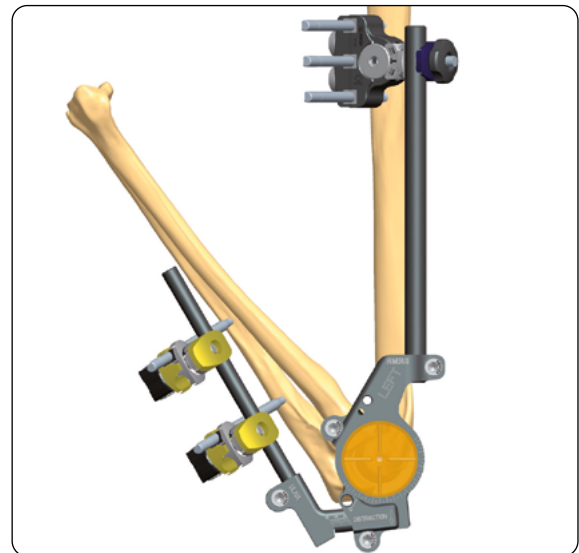

Fig. 15
14) Lock the Elbow Hinge in the maximum flexion and leave the elbow in this position for 1-3 days. After this period allow elbow mobilization (**Fig. 15**), advising the patient to use the elbow motion unit.